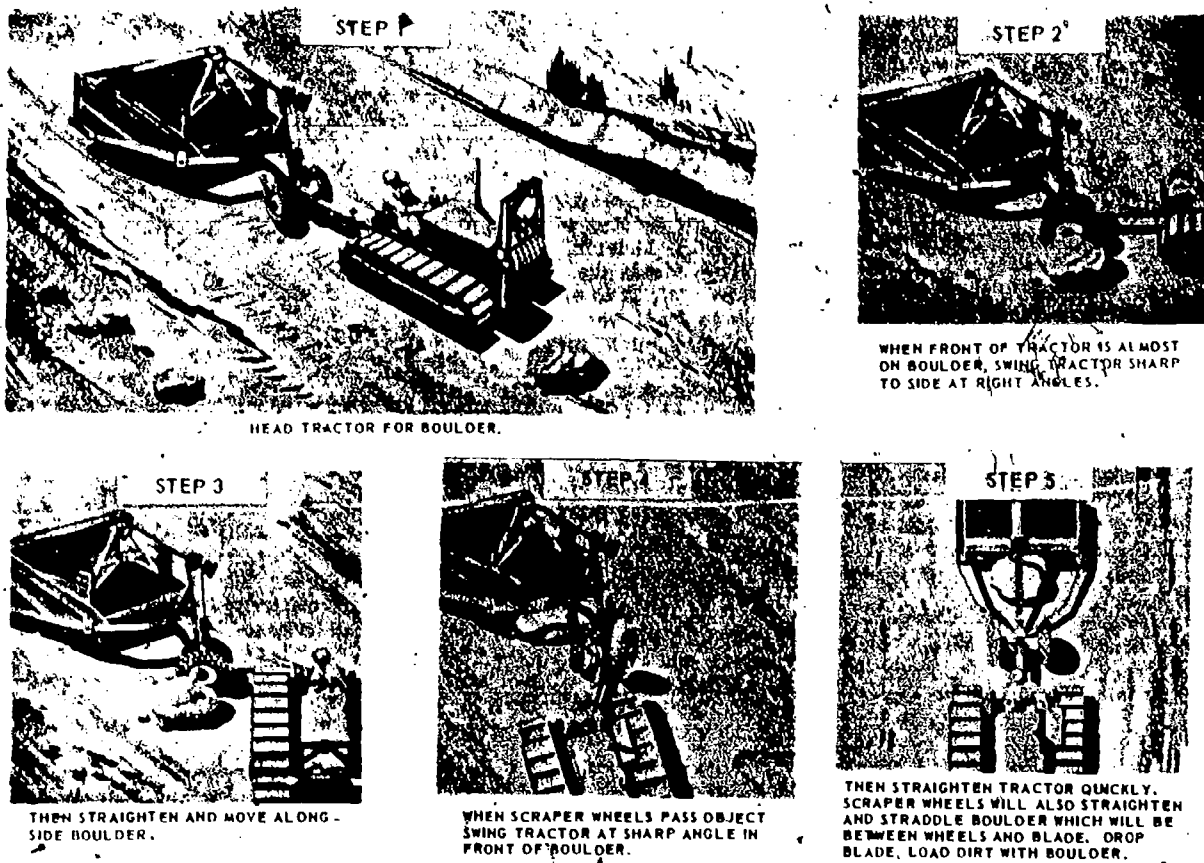

Fig 4-40. Scraper loading boulder.
- (c) **Rocks and stumps.** Figure 4-40 illustrates the method of bringing a scraper blade against a rock or stump which is too large to be passed over by the prime mover. To unload a rock or stump, stop the scraper, raise the apron, and pull the ejector plate forward. After the object has fallen out, turn the prime mover and back up so you can pull away without contacting the object with the scraper.